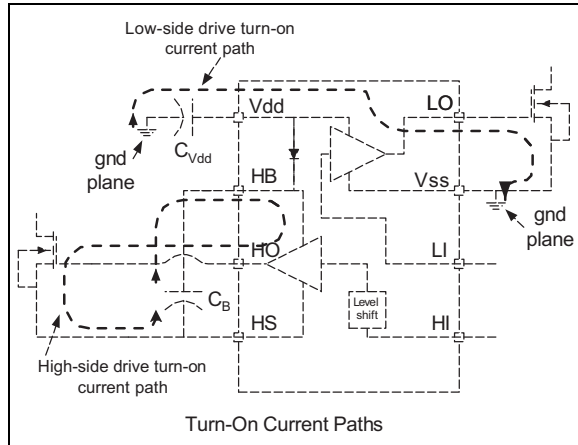
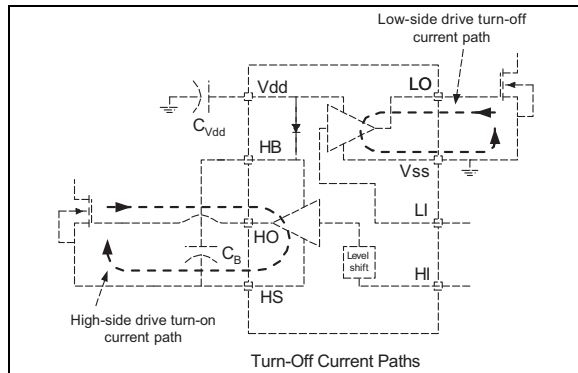

FIGURE 6-4: Turn-On Current Paths.
FIGURE 6-5: Turn-Off Current Paths.
Figure 6-4 shows the critical current paths when the driver outputs go high and turn on the external MOSFETs. It also shows the need for a low impedance ground plane. The charge needed to turn-on the MOSFET gates comes from the decoupling capacitors C_{VDD} and C_B . Current in the low-side gate driver flows from C_{VDD} through the internal driver, into the MOSFET gate, and out the source. The return connection back to the decoupling capacitor is made through the ground plane. Any inductance or resistance in the ground return path causes a voltage spike or ringing to appear on the source of the MOSFET. This voltage works against the gate voltage and can either slow down or turn off the MOSFET during the period where it should be turned on.
Figure 6-5 shows the critical current paths when the driver outputs go low and turn off the external MOSFETs. Short, low impedance connections are important during turn-off for the same reasons given in the turn-on explanation. Current flowing through the internal diode replenishes charge in the bootstrap capacitor, C_B .
- Trace out the high d_i/d_t and d_v/d_t paths, as shown in Figure 6-4 and Figure 6-5 to minimize the etch length and loop area for these connections. Minimizing these parameters decreases the parasitic inductance and the radiated EMI generated by fast rise and fall times.